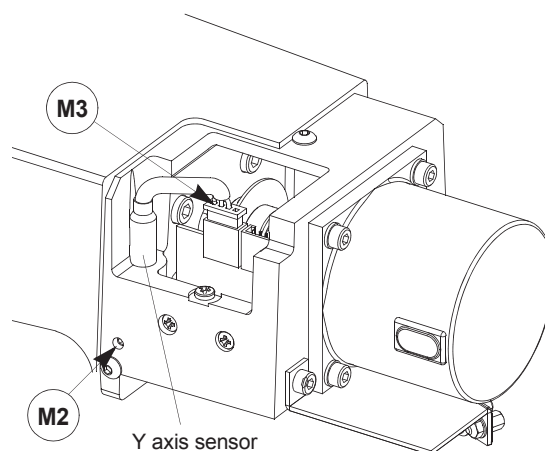

Fig. 143
- 5) disconnect the (M3) sensor's connector (fig. 143).
- 7) remove the faulty sensor and replace it with a new one. Screw it in until it almost touches the underlying rod (fig. 143). Tighten the (M2) grub screw to lock the sensor into place.